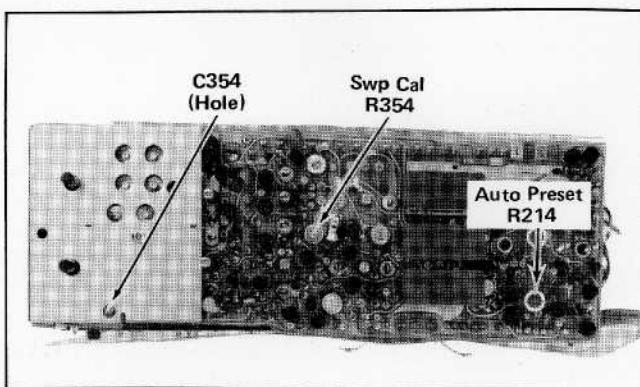

Fig. 5-9. Location of Sweep Cal and Auto Preset adjustments.
f. Adjust the AUTO PRESET (R214) side panel screwdriver adjustment for a triggered display. See Fig. 5-9.
g. Adjust the SWP CAL adjustment R354 so that the time marks align with the center eight graticule lines. See Fig. 5-9.
l. Adjust C354 so that the time marks align with the center eight graticule lines. See Fig. 5-9.